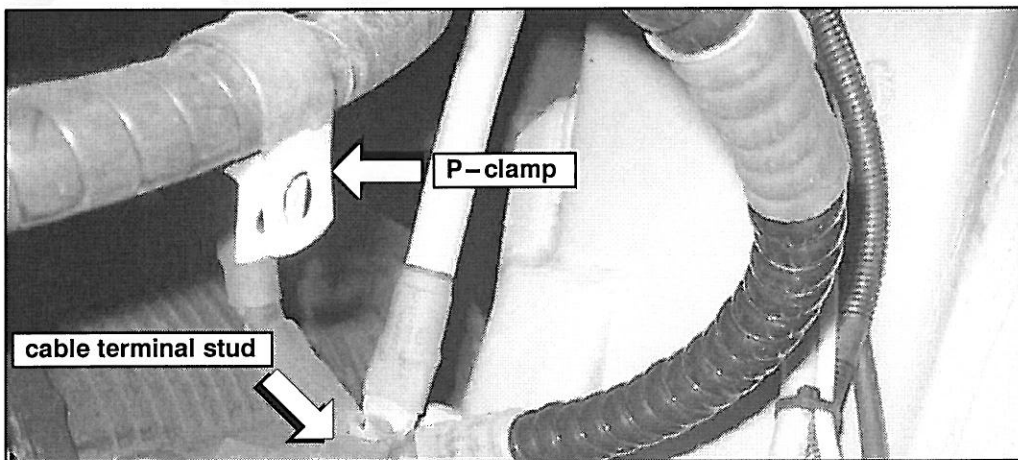

Figure 6.
- Remove and discard existing P clamp on alternator cable (refer to Figure 6). Use existing hardware, install new P clamp, p/n 19-4-26.